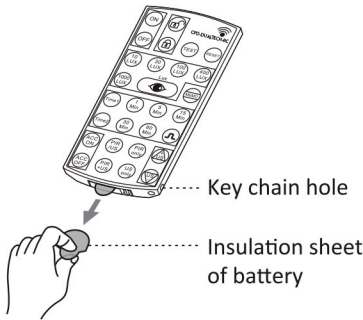

FIG.1
- 2.3 A key chain hole is designed for convenient carry (See FIG.1).
- A battery for the IR remote controller is included. Please remove the insulation sheet before initial use (See FIG.1).